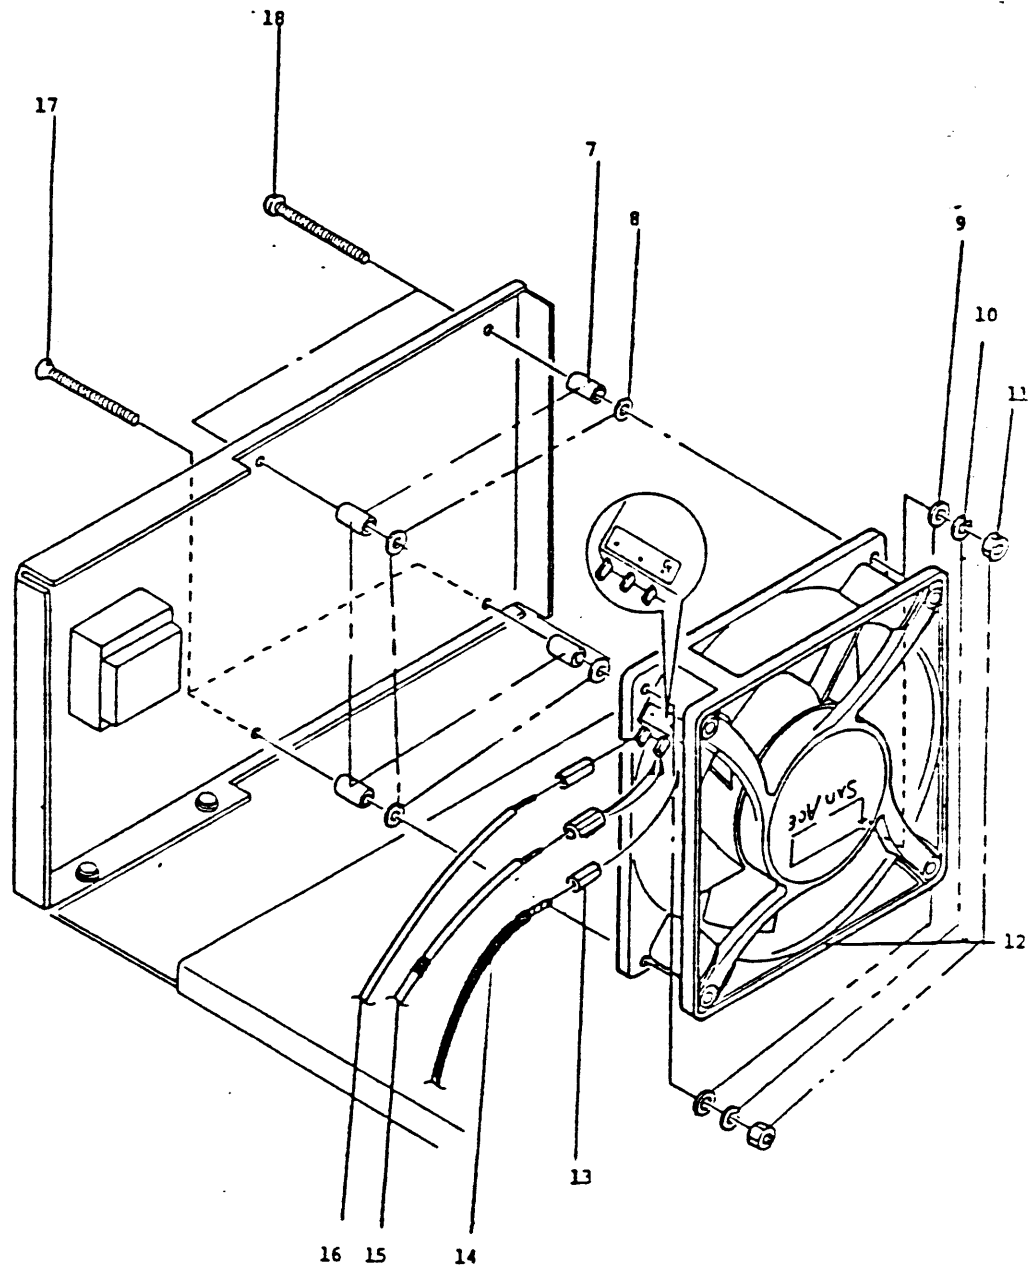

FIGURE 6.3 Fan Replacement
- (1) Unfasten screws 20, 23, 27 and 28 to remove the power unit cover and the fan side cover.
- (2) Remove the input and FG wires (14, 15 and 16) from the fan.
- (3) Unfasten screws 7-11, 17 and 18 to remove the fan (FIGURE 6.3).